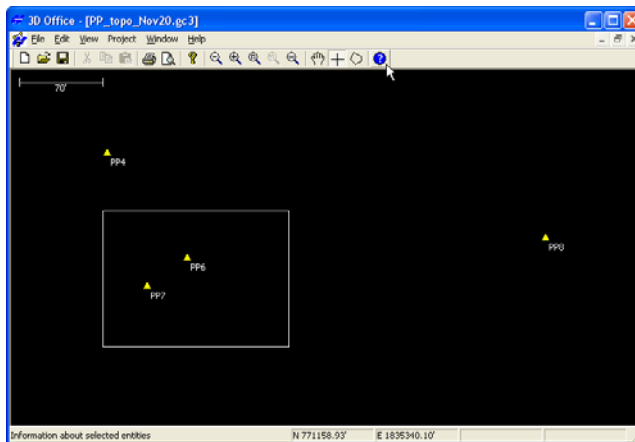

Figure 2-8. Select Control Point(s) – Press the Information Button
1. Using the select tool, click on or draw a rectangle around the desired point(s), then click the activated **Information** button (Figure 2-8).